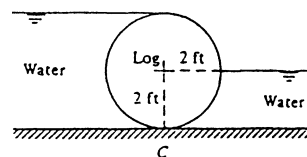

Fig. P2.94
**2.94** The 4-ft-diameter log (SG = 0.80) in Fig. P2.94 is 8 ft long into the paper and dams water as shown. Compute the net vertical and horizontal reactions at point C.